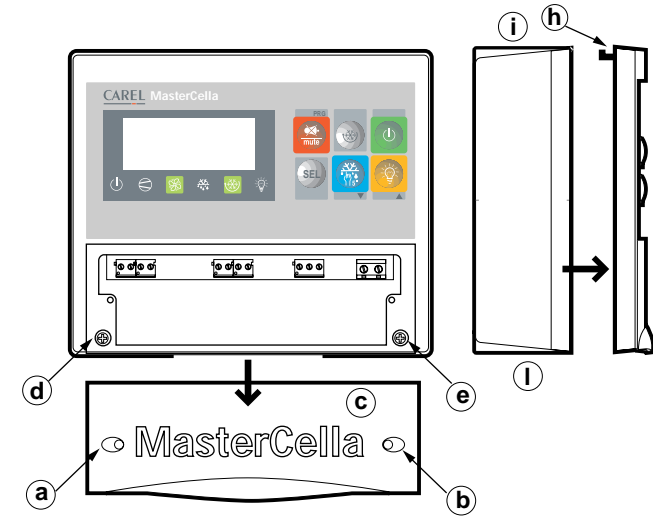
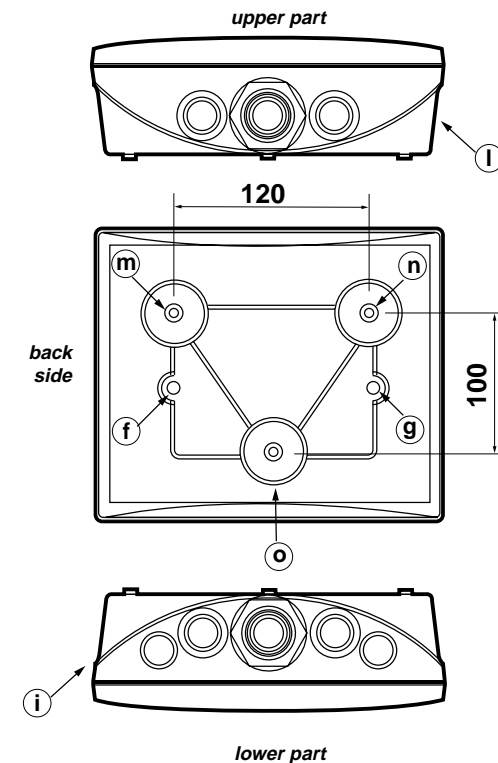

Fig. 2
Fig. 3
- Unscrew the two frontal screws (Fig. 2, a, b) and take out the central door (Fig. 2, c).
- Unscrew the two screws (Fig. 2, d, e) that keep the lower and frontal cover of the MasterCella connected and separate the two parts.
- Make two holes in the back part (in the perforated part - Fig. 3, f, g).
**N.B.:** It is necessary to remove the two upper fixing teeth (Fig. 2, h) of the frontal part before the panel insertion. Make the hole in the back upper (Fig. 2, i) or lower part (Fig. 2, l) to allow the cable passage. The pitches of the established threads ranges from PG9 (diameter: 16mm) to PG21 (diameter: 29mm). In order to make drilling easier, the use of a drill or a cutter is suggested. Connect the cables to the terminal block. Tighten the screws again (Fig. 2, d, e). Then screw on the door (Fig. 2, c).
- Unscrew the two frontal screws (Fig. 2, a, b) and remove the central door (Fig. 2, c).
- Once having decided where to pass the cable duct or the cables (from above or from below), after making the proper holes (in the part drilled in advance - Fig. 2, i, l) for cablepresses and pipepresses, make three holes (Fig. 3, m, n, o) both in the MasterCella and in the wall itself.
- Insert the wall-nugs, contained in the kit, into the holes made in the wall and then fix the back part of the MasterCella with the three screws (Fig. 3, m, n, o) and the relevant O-Rings to the wall itself.
- Subsequently, mount the frontal part, being careful with the positioning of the upper teeth (Fig. 2, h) and the proper fixing of the two screws (Fig. 2, d, e) (do not press excessively in order to avoid plastic deformation).
- After connecting the cables to the terminal block, shut the door (Fig. 2, c).